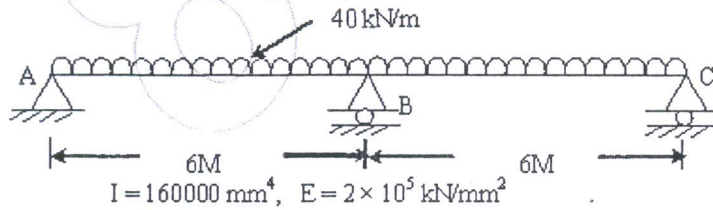

Figure.1
b) Determine the support reactions and maximum vertical deflection for the continuous beam shown in Figure.1. [15]